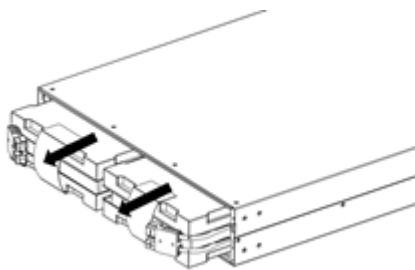

Figure 5
- a. There are two module packs for the BP192V5CRTXL. (Figure 5)